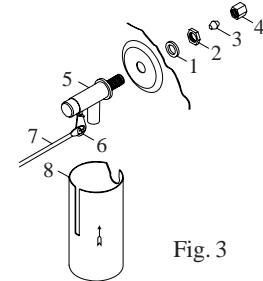

Fig. 3
- **Install float valve and fill pan.** Refer to Fig. 3. Remove items 1, 2, 3, and 4. Insert float body (5) through hole in back post panel as shown. Install washer (1) and nut (2). Tighten to keep float from turning. Place nut (4) and ferrule (3) on water supply line. Connect to float fitting and tighten until water tight. Loosen screw (6) and adjust rod (7) until water level is within 1" of top of reservoir. Tighten screw (6).